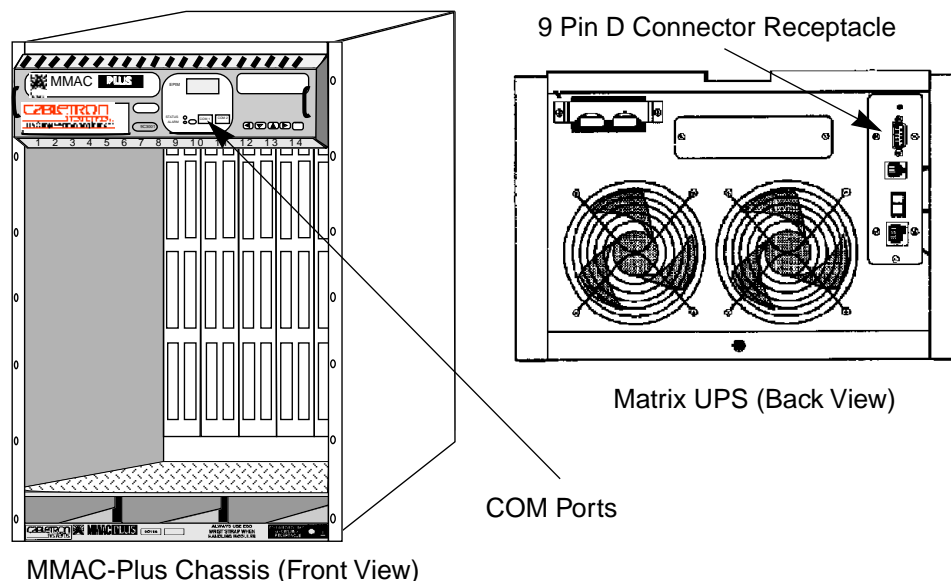

Figure B-1. Connecting EM to UPS
1. Plug the RJ-45/DB-9 adapter labeled “UPS” into the receptacle on the rear of the UPS (Figure B-1).
2. Plug one end of the cable with the RJ-45 connector into the RJ-45/DB-9 adapter labeled “UPS” on the rear of the UPS (Figure B-1).
3. Plug the other end of the cable with the RJ-45 connector into the COM2 port on the front of the EM inserted in the MMAC-Plus Chassis (Figure B-1).